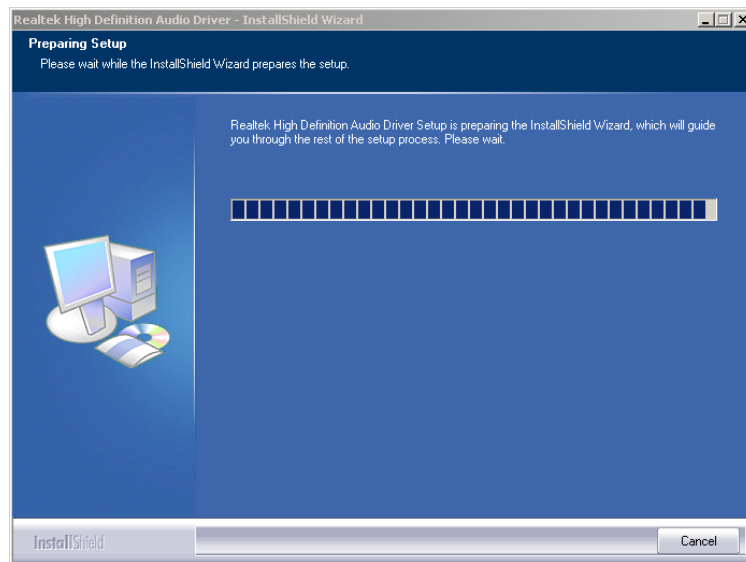

Figure 7-28: Preparing Setup Screen
Step 8: The InstallShield Wizard is prepared to guide the user through the rest of the process (Figure 7-28).